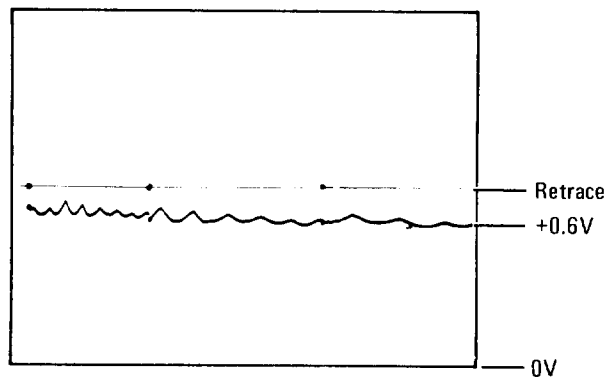

Figure 5-19. Pin Modulator Drive Voltage with Multiplier Bias Correctly Adjusted
1. Adjust OFFSET control A10AIR4 counterclockwise until CRT trace is at maximum voltage in Bands 2 and 3 portion of Band 4 sweep. Display should appear as shown in Figure 5-19.